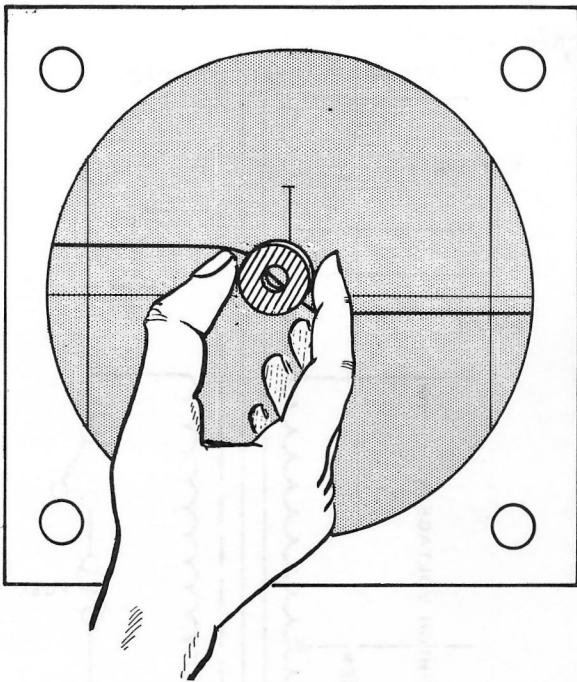

Figure 4-20
- ( ) A small magnet is supplied with your kit. Place it against the screen and in front of the line as shown in Figure 4-20. Note how the line bends (distorts) in back of the magnet.